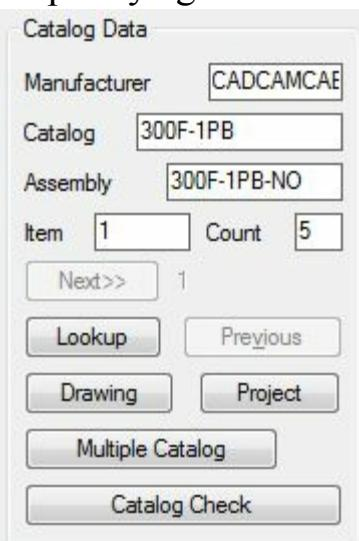

Figure-8. Catalog Data area
- Click in the **Count** edit box and specify the number of components required in the current drawing. The specified numbers will be automatically added in the Bill of Materials. The area after specifying all the values will be displayed as shown in Figure-8.